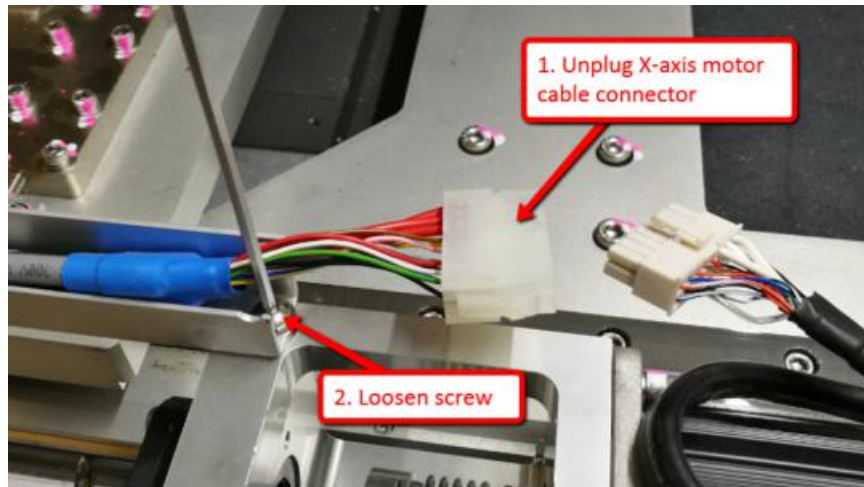

Figure 9
11. Unplug X-Axis motor cable connector and loosen the screw as shown in Figure 9.